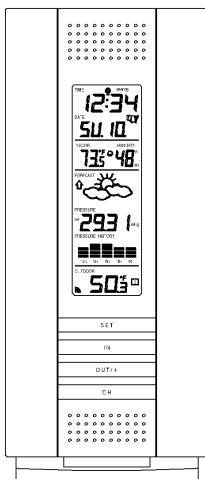

Figure 1
1. WS-7394U-IT— Wireless Weather Station (Figure 1)